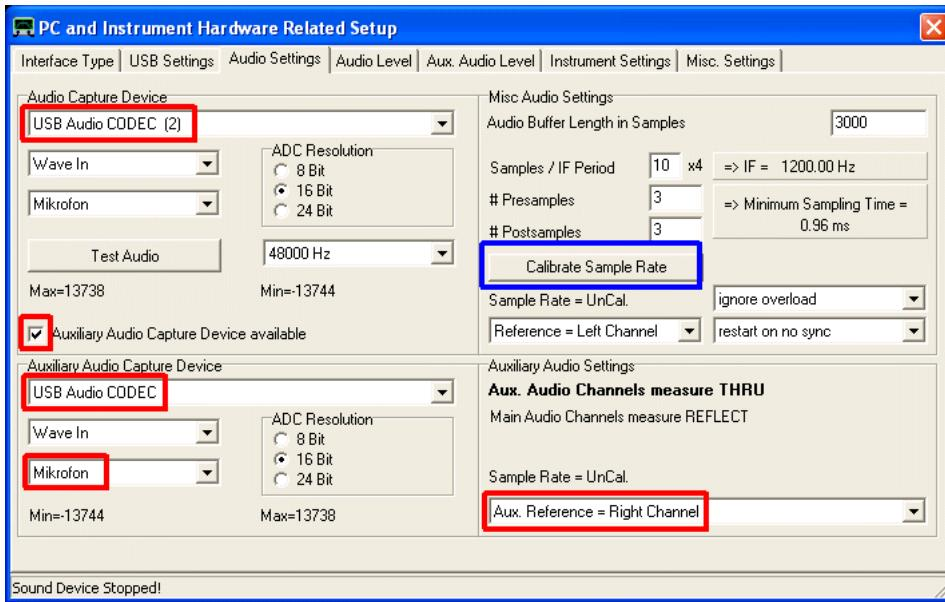

Fig 1. Configuration of Auxiliary Audio Capture Device
3.1.2 Select Tab "Audio Level" and tick the box "Auxiliary Audio Capture Device Available" in fig 1. which is applicable for Windows XP operating system. This will bring up the configuration of the Auxiliary Audio Capture Device. Change the settings as shown in fig 1.
If the "Auxiliary Audio Capture Device available" checkbox is NOT shown in fig 1., then exit VNWA application and add the line AuxAudio=1 to the file VNWA.ini with a text editor and then restart the VNWA Application.
3.1.3 Press the button "Calibrate Sample Rate" as shown in fig 1. If Sample Rate Calibration fails (First pulse not detected) then reverse the two USB Audio Codec devices and test again (i.e. Audio Capture becomes "USB Audio Codec" and Aux. Audio Capture becomes "USB Audio Codec 2").
3.1.5 Connect a short coax cable between TX and RX ports and check the Reflect sinewave in fig 1. now becomes a flat blue line.
Troubleshooting: If the above displays are not obtained then check the USB-Audio Settings in fig 1. and perform step 3.1.3 again.